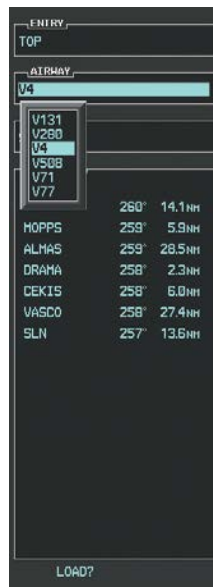

Figure 5-117 List of Available Airways for TOP
- f) Select the **LD AIRWY** Softkey to display the list of available airways for TOP as seen in Figure 5-117.
- g) Turn either **FMS** Knob to highlight V4 in the list as seen in Figure 5-117.